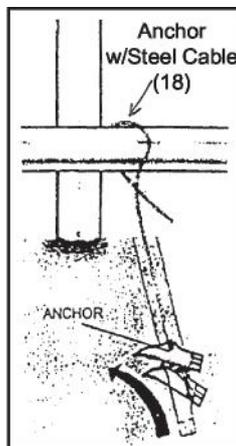

Figure 8.
3. If installing in dirt, drive the Anchor (18) into the soil using a hammer and drive rod (not provided). The more you hammer, the more the Anchor goes into the soil, compacting the soil around it. Remove the drive rod once you have established the proper depth.
5. After placing all the Anchors, wrap the Wire Cable from each Anchor, around the Bottom Rails and securely attach it to itself using Clamps (25) (not shown). **See Figure 8. Figure 8**